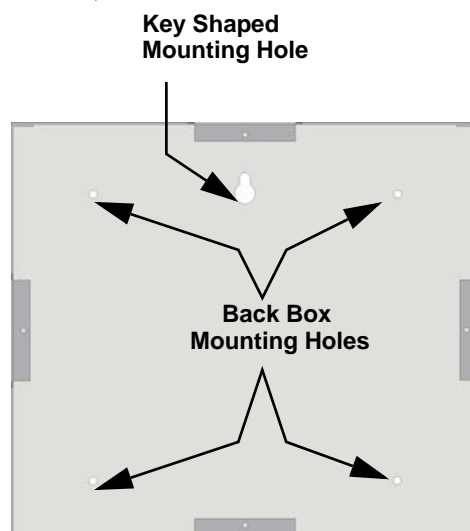

Figure 4-15 Back Box Surface Mount Holes
2. To properly mount the back box, insert a single screw into the key shaped mounting hole. Do not tighten all the way. See Figure 4-15.
- To properly mount the back box, insert a single screw into the key shaped mounting hole. Do not tighten all the way. See Figure 4-15.